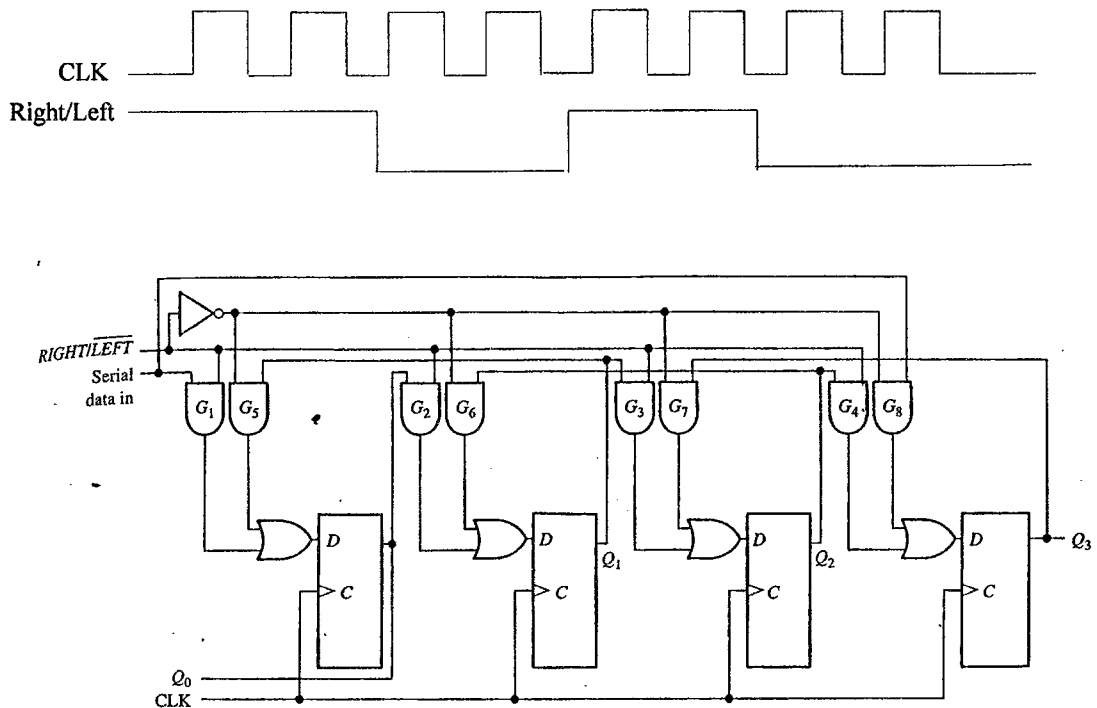

Figure 11
6. (a) Determine the states of shift register shown in Figure 11 for the given Right/Left signal. Assume that $Q_0=1$, $Q_1=0$, $Q_2=0$ and $Q_3=1$. Input at serial input pin is logic 0.